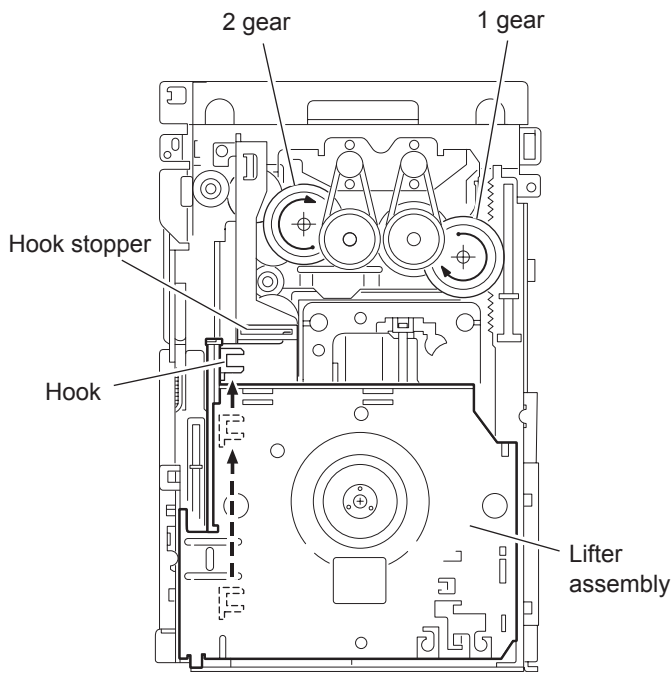
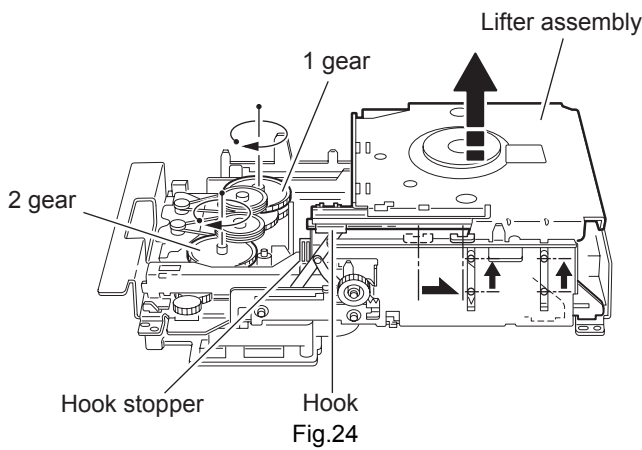

Fig.23
Fig.24
3.2.9 Removing the lifter assembly (See Fig.23 ~ 27)
- Prior to performing the following procedure, remove the tray assembly and side (L)/ side (R) assembly.
- (1) From top of the body, turn the 1 gear clockwise to move the lifter assembly upward as shown in Fig.24.
- (2) From top of the body, turn the 2 gear clockwise to move the hook toward the front until it stops.
- (3) Move the hook stopper in the direction of the arrow while pushing the tab r of the hook stopper to unlock it. Release four joints s to detach from the rack holder. Release the rod from part t.
- (4) Turn the 1 gear clockwise again to move the lifter assembly upward.
- (5) Remove the lifter assembly from the body upward at position u where the four pins on the right and left sides of the lifter assembly fit to the notches of the v. Move the lifter assembly toward the front and release from the hook.